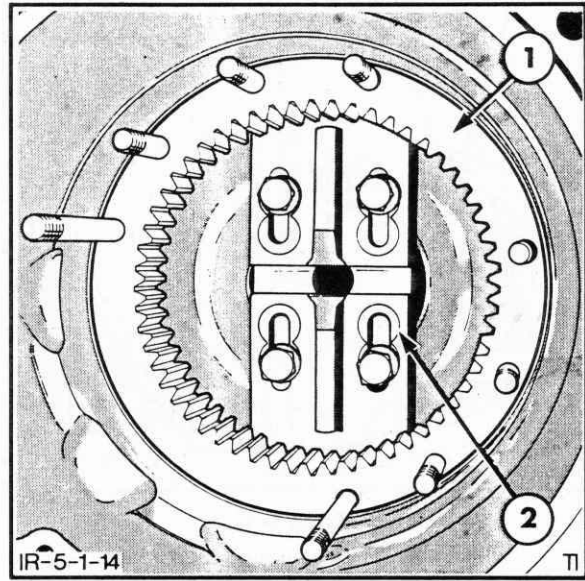
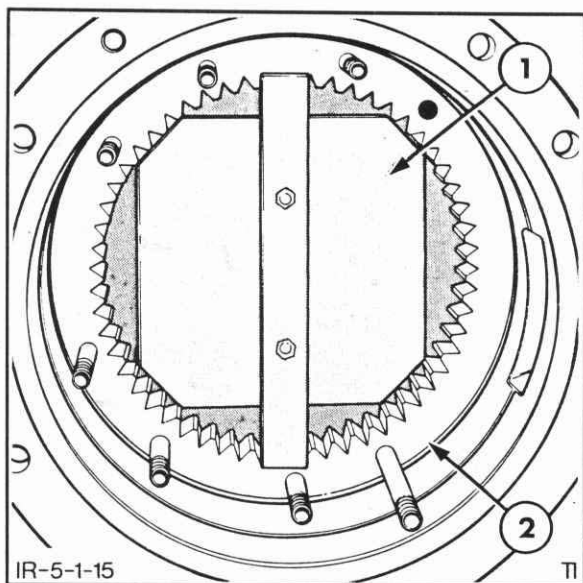

Figure 5-14
Figure 5-15
b. Position Tool #FT4500 behind the ring gear, expand the movable plates and tighten the four locknuts, Figure 5-14. If tool 2122 is used, position the tool behind the ring gear and tighten the retaining nuts, Figure 5-15.